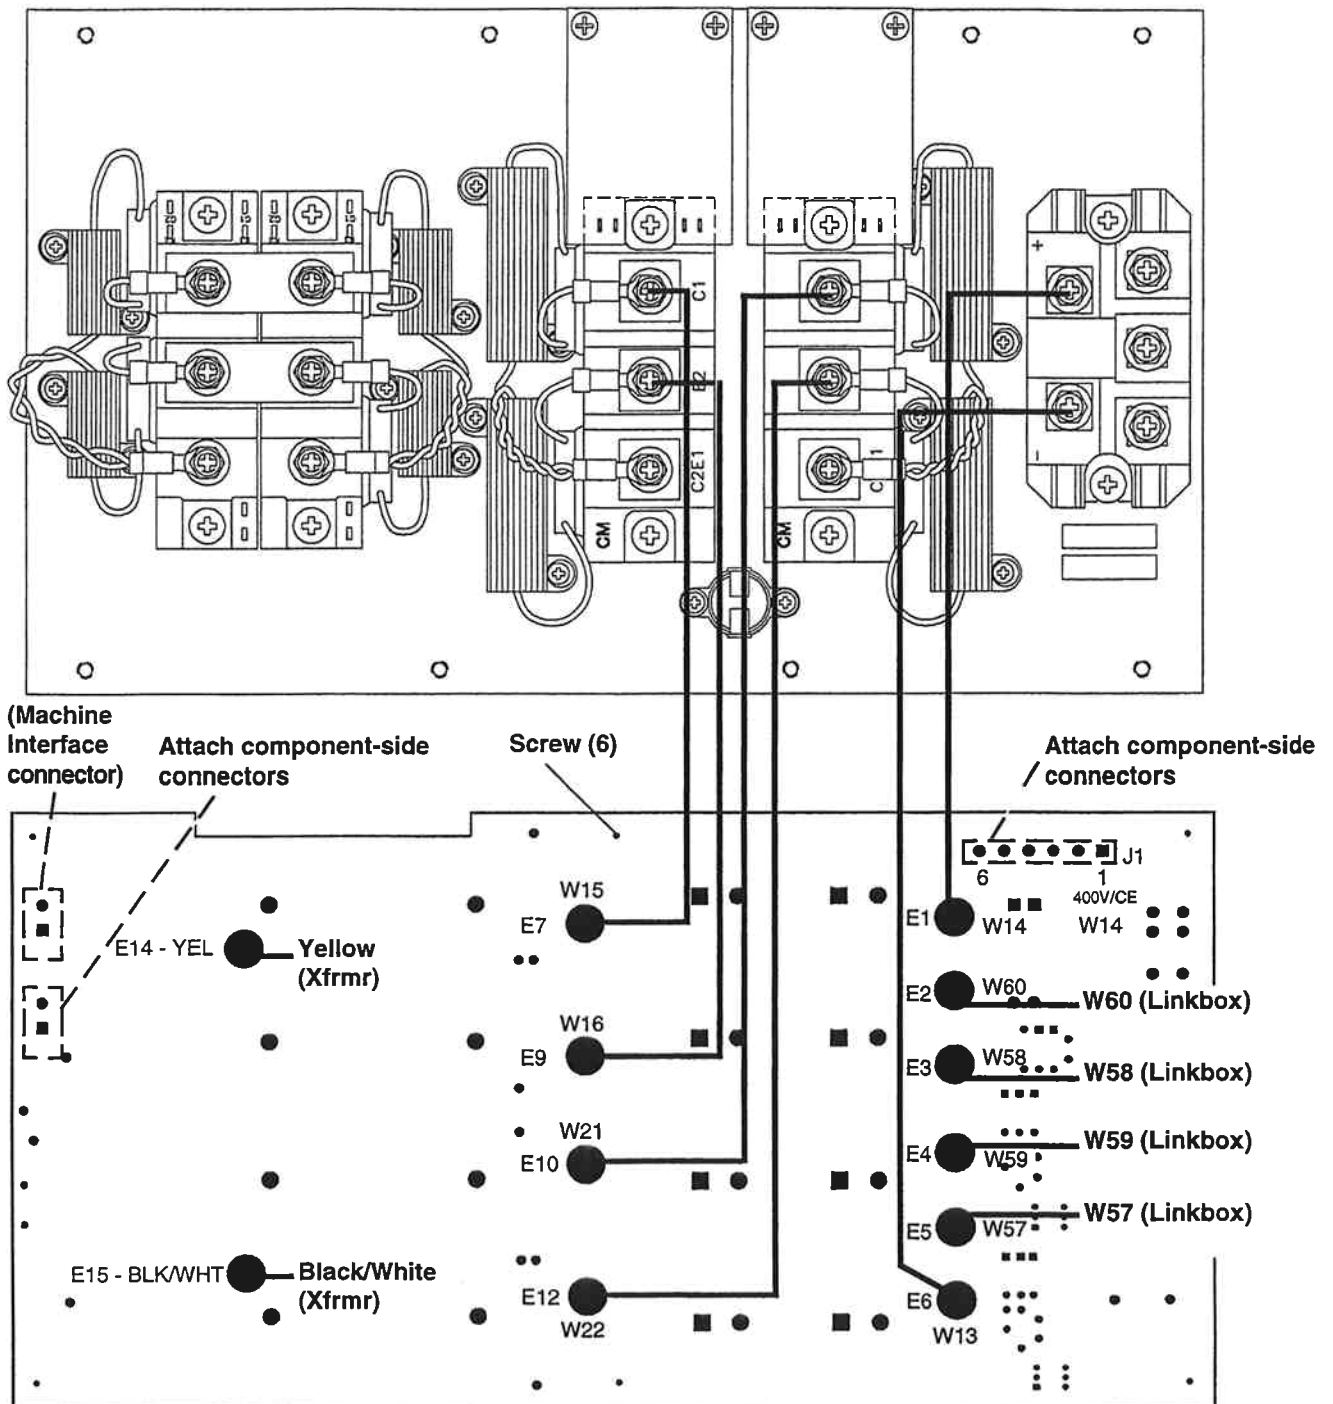

Figure 4 Power Board Connections to 208/240/480V and 200/230/400V Power Supplies
3. Attach the yellow and the black/white transformer (xfrmr) wires to the power board as shown in Fig. 4.
Notes: Figure 4 shows connections from the heatsink assembly, and references connections to the transformer and linkbox.
The linkbox (referenced for wires W57-W60 in Fig. 4) is located behind the power supply rear panel.